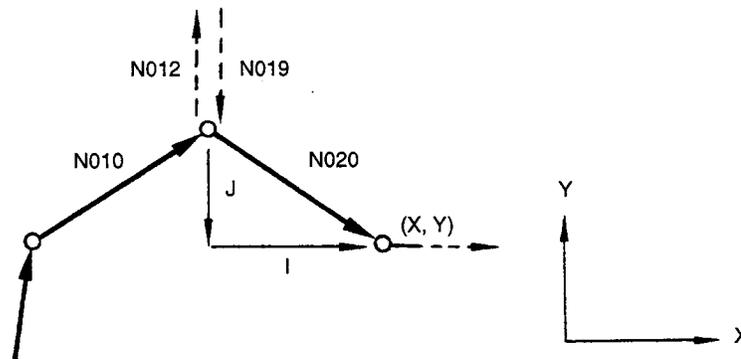

FIGURE 3.4.4.27 Insertion of Dummy Blocks
- If the object of the dummy block is circular interpolation, enter the dummy block as shown in the example program given below. Insert the dummy block in which the straight line expressing the tangential direction at the start point of circular interpolation is specified as shown in Fig. 3.4.4.28. The cutting tool moves to point A as shown in Fig. 3.4.4.29 by the execution of the dummy block so that the following circular interpolation can be executed.